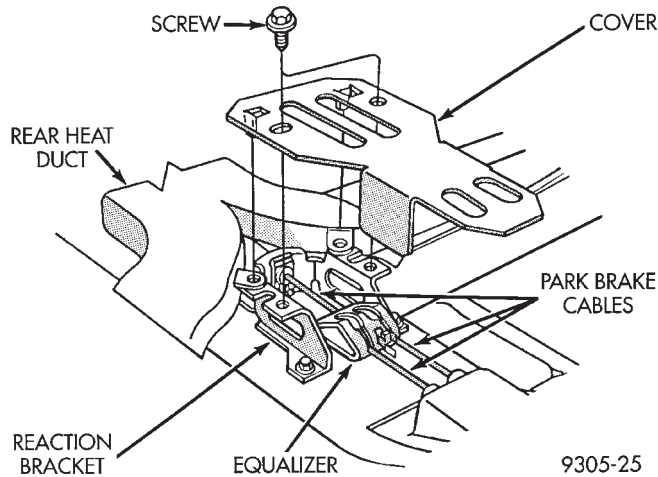

Fig. 97 Park Brake Equalizer And Cover
(4) Fold back carpeting to expose the front park brake cable, reaction bracket cover and equalizer. Remove equalizer cover from reaction bracket (Fig. 97).
(9) Install equalizer cover back on reaction bracket (Fig. 97). Torque equalizer cover to reaction bracket mounting bolts to 10 N·m (88 in. lbs.). Fold carpeting back into position on left floor pan of vehicle. Install throttle pedal and bracket back on dash panel studs and install attaching nuts.